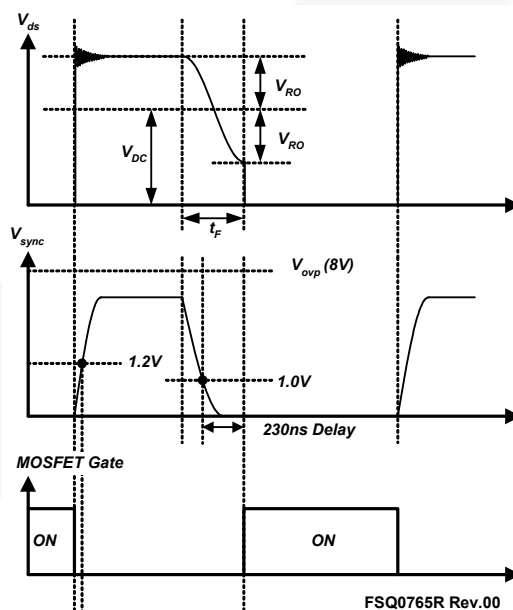

Figure 24. Quasi-Resonant Switching Waveforms
**3. Synchronization:** The FSQ-series employs a quasi-resonant switching technique to minimize the switching noise and loss. The basic waveforms of the quasi-resonant converter are shown in Figure 24. To minimize the MOSFET's switching loss, the MOSFET should be turned on when the drain voltage reaches its minimum value, which is indirectly detected by monitoring the  $V_{CC}$  winding voltage, as shown in Figure 24.